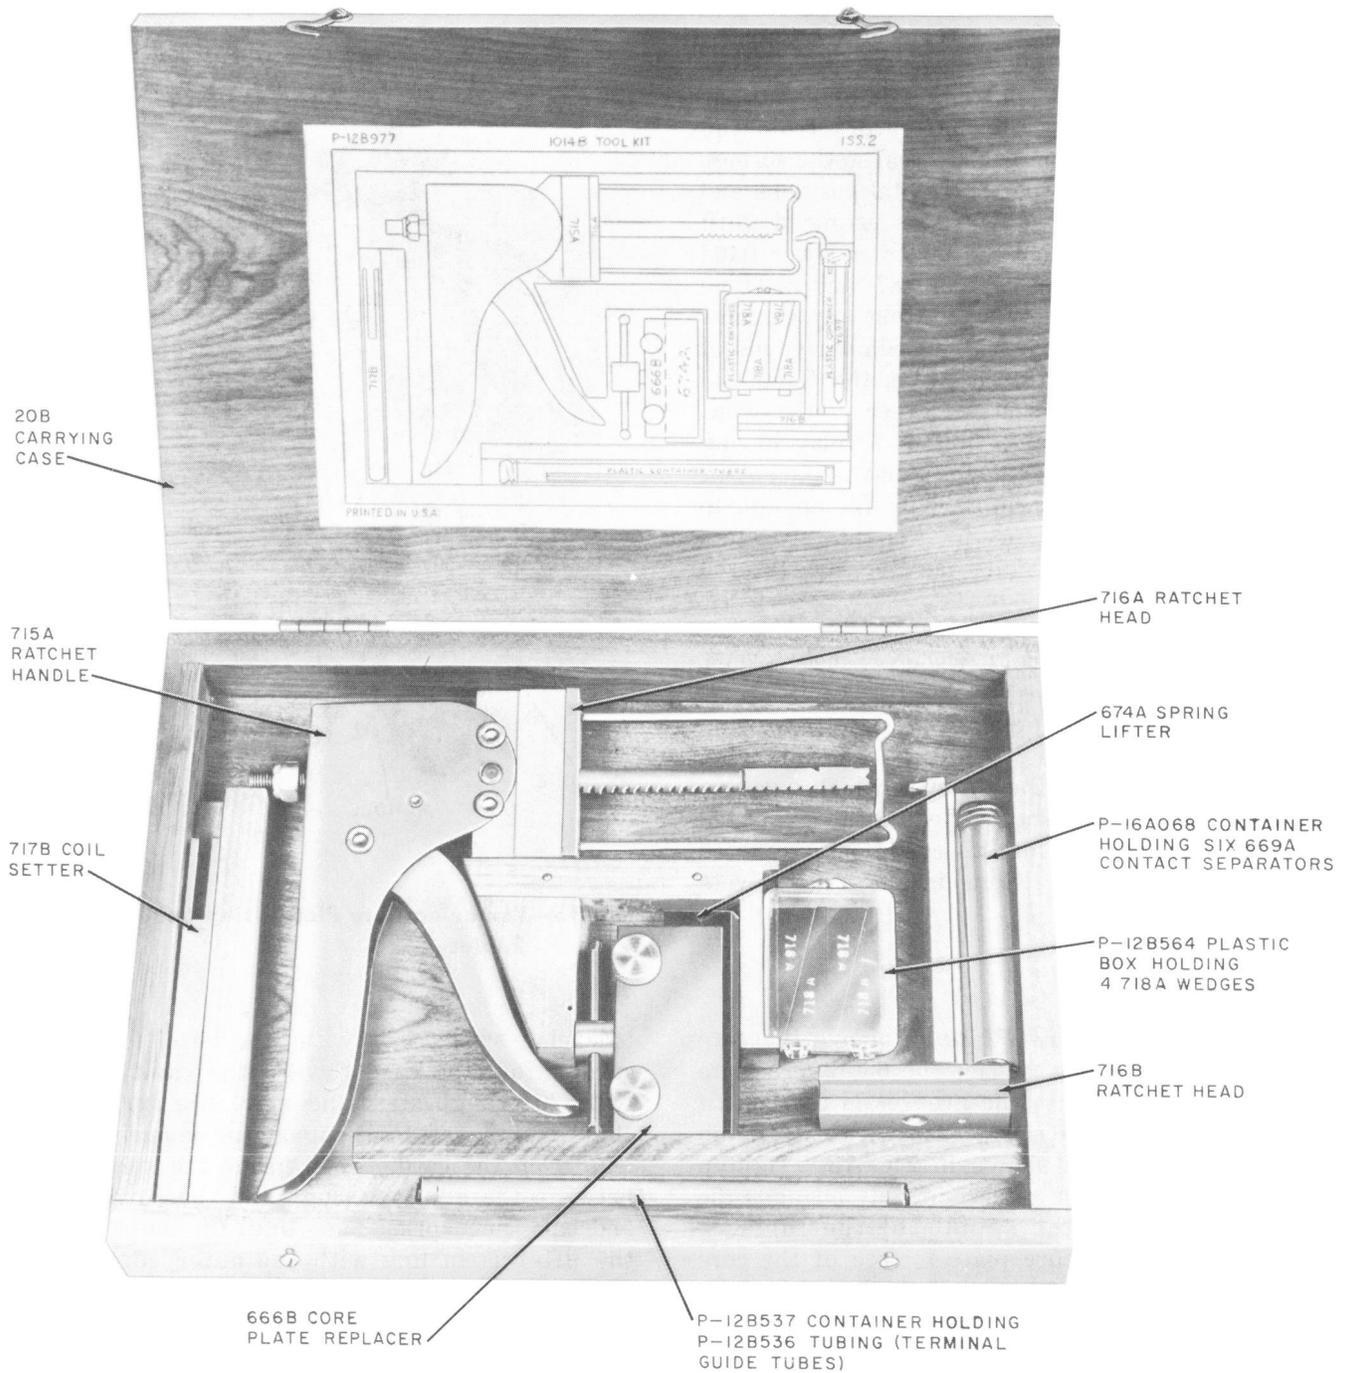

Fig. 14—1014B Tool Kit
3.34 1014B Tool Kit: Figure 14 shows the tools comprising the 1014B tool kit used for replacing coils on wire-spring type relays. The 716B ratchet head and P-12B536 terminal guide tubes furnished with the tool kit are not required